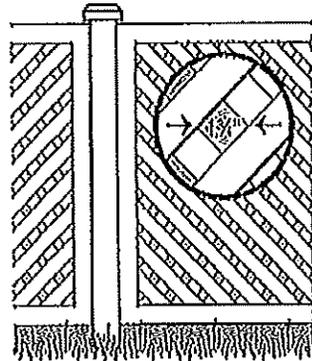

Figure 7
9. Where the barrier is composed of diagonal members, such as a lattice fence, the maximum opening formed by the diagonal members should be no more than 1 3/4 inches (figure 7).